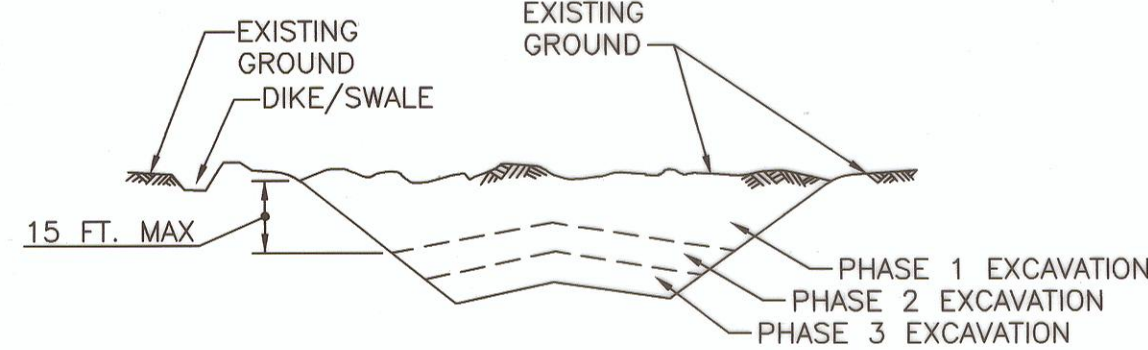

FIGURE B.1: INCREMENTAL STABILIZATION - CUT
- CONSTRUCTION SEQUENCE EXAMPLE (REFER TO FIGURE B.1):